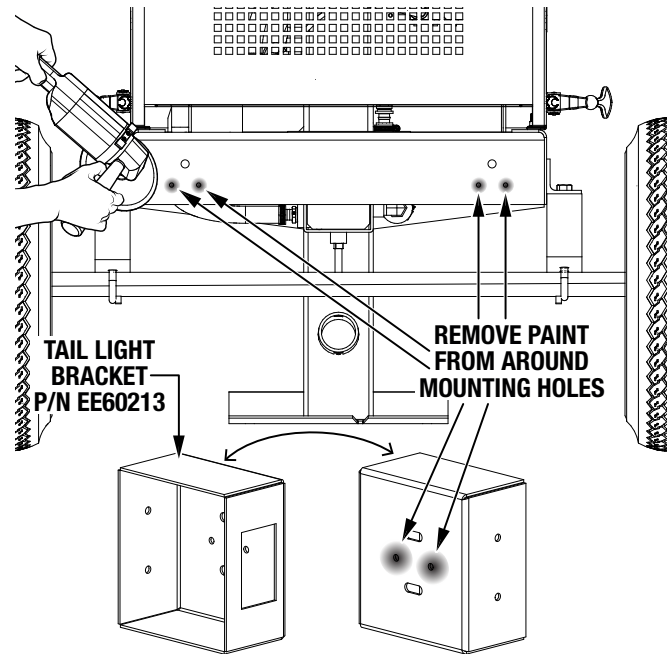

Figure 6. Paint Removal (Plaster/Mortar Mixers)
2. Using a grinder, remove the powder coat paint around the newly drilled 17/64-inch holes (Figure 6).
3. Using a grinder, remove the powder coat paint around the mounting holes in the back of both tail light brackets (P/N EE60213). See Figure 6.